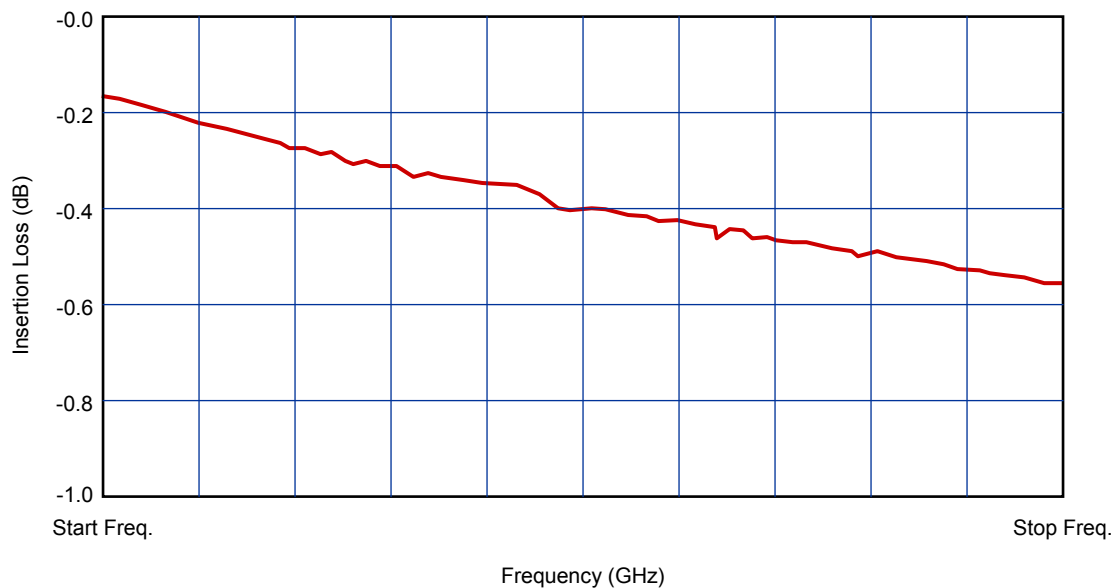

Figure 8. Insertion Loss Display (Probes Retracted)
10. Set VNA controls for a convenient display and verify that the insertion loss is as specified in Table 1 over the full frequency range of the tuner per Table 1. The VNA display should be similar to the sample shown in Figure 8.